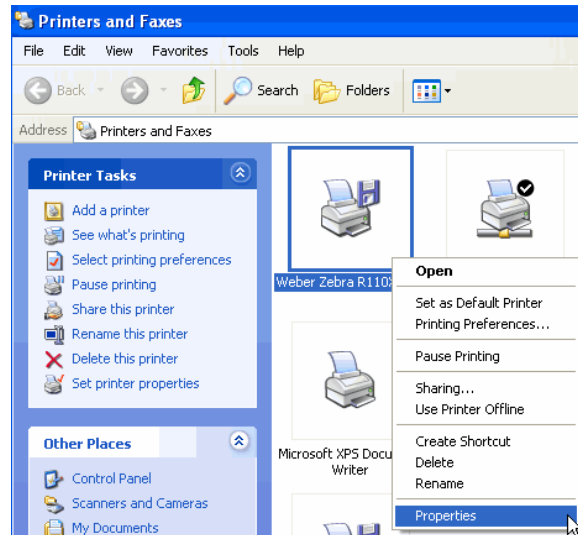

Figure 3-16
3.3.1. Right-click on the newly installed printer. (Figure 3-16)
3.3.2. Choose *Properties* from the quick-pick menu. (Figure 3-16)